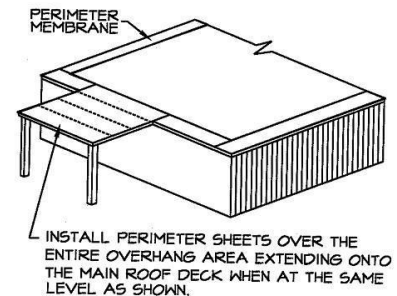

Figure 2
2. **Buildings with overhangs (Figure 2)** - The membrane must be specified with perimeter sheets installed over the entire overhang area extending onto the main roof deck when at the same level. As an option, an adhered membrane section may be used in lieu of the mechanically fastened membrane at building overhangs in accordance with the Mule-Hide Fully Adhered TPO Roof System Specification. See Detail MHT-MA-103B.